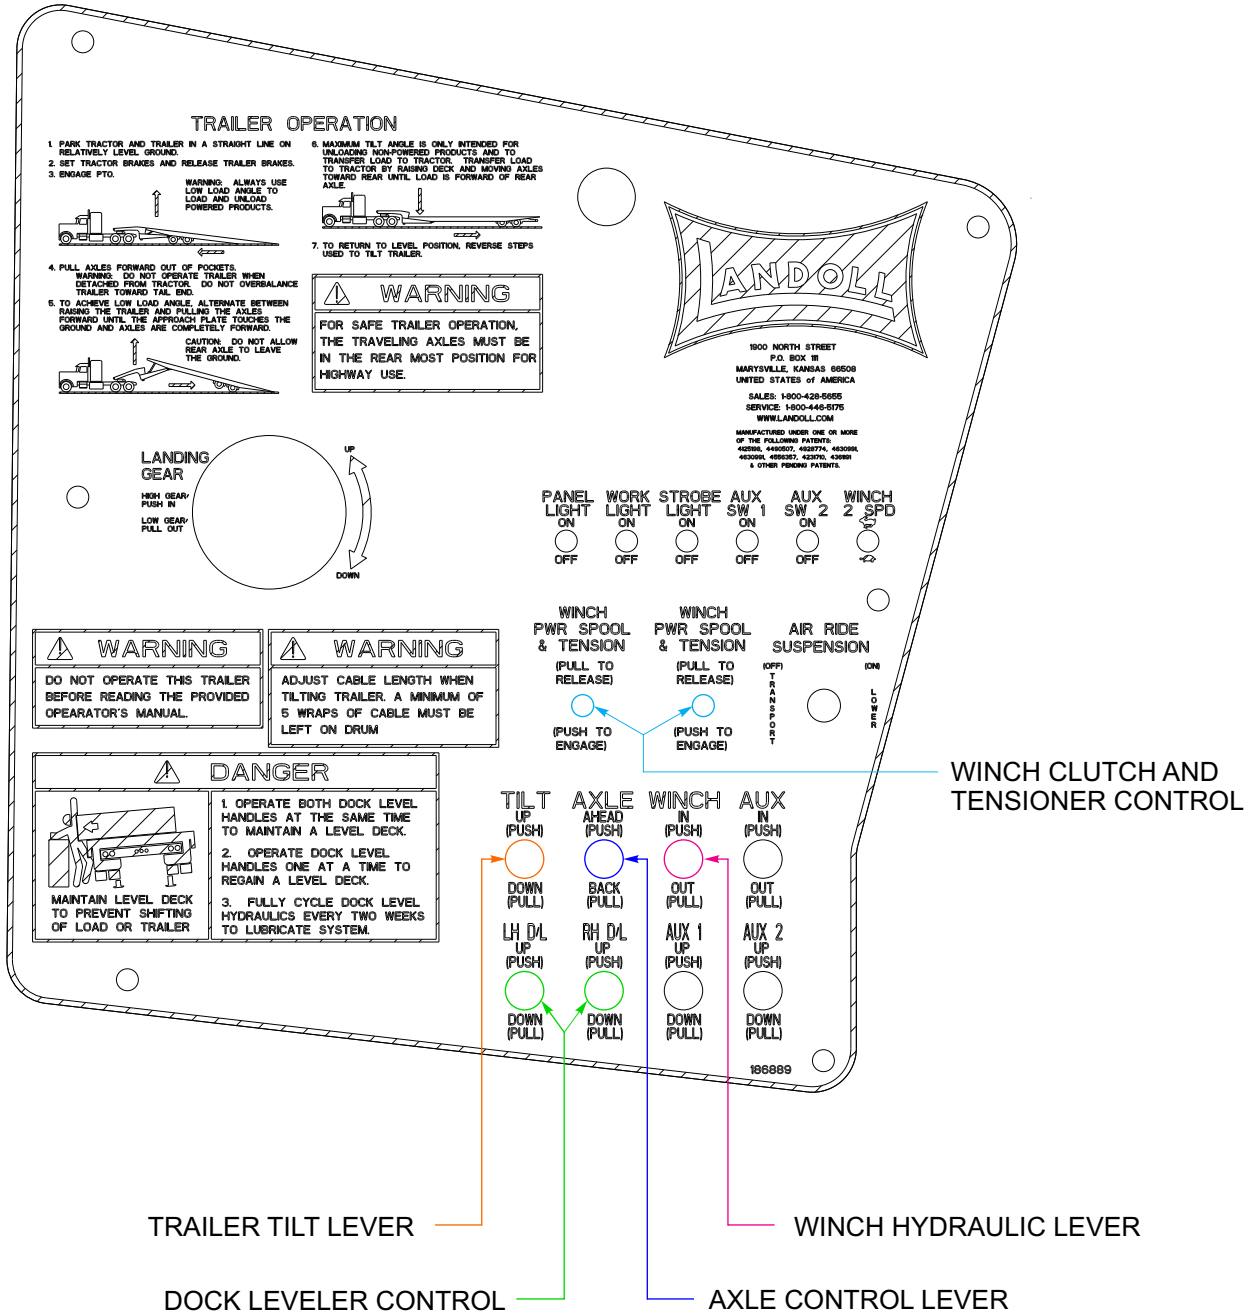

Figure 3-4: Hydraulic Controls
2. The Landing Gear lever is located in the hydraulic control panel **(See Figure 3-4.)** It has three positions:
The Trailer Tilt lever is located on the driver's side of the upper deck (**See Figure 3-4.**) It is the front lever and has three positions:
The Axle Control lever (**See Figure 3-4**) is located on the control panel. It is the third lever with three positions: